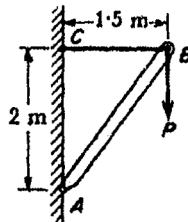

Fig.1 (a)
- 1(a) For the simple structure shown in Fig. 1(a), member BC is a steel wire having diameter $d = 3 \text{ mm}$ and member AB is a wood strut of 2.5cm -square cross-section. Calculate the horizontal and vertical components of the displacement of point B due to a vertical load $P = 200 \text{ kg}$ acting as shown. For steel, $E_s = 2 \times 10^6 \text{ kg/cm}^2$, for wood, $E_w = 10 \times 10^4 \text{ kg/cm}^2$.